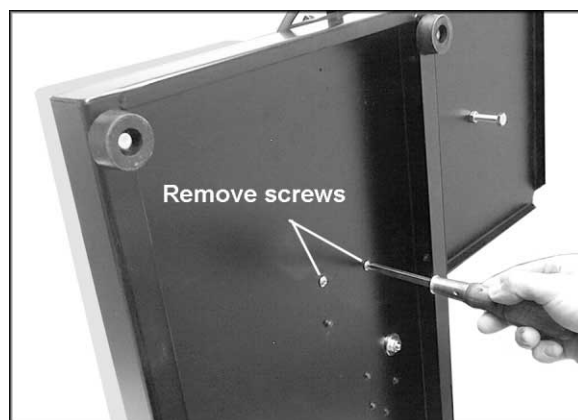

Figure 6
1. On the underside of the Edge Bander, use a Phillips screwdriver to remove the two screws which secure the hot air gun (Figure 6).
3. When finished, re-install the hot air gun. Re-install and tighten the two screws (Figure 6).